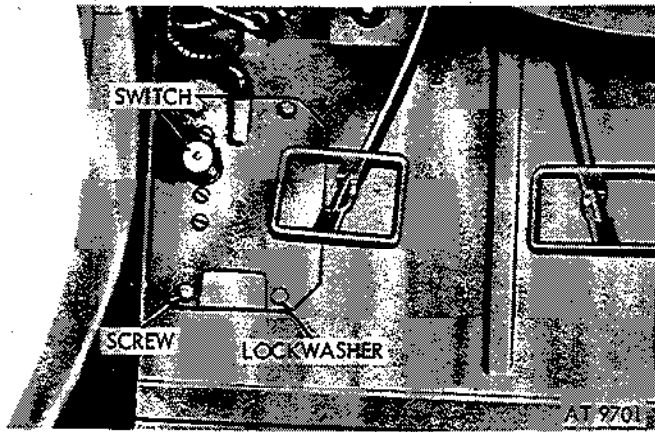

Figure 2-241. Remove dimmer switch from floor panel.
(27) Remove four screws and lockwashers securing dimmer switch to floor panel (see fig. 2-241).